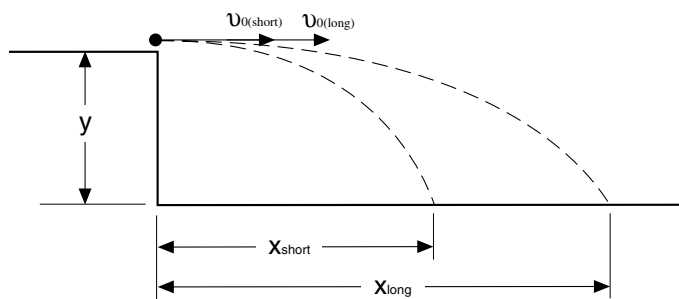

Figure 9.1: Shots fired simultaneously
- Tie a loop in a piece of string, and hang the pendulum horizontally from the loop. (See Figure 9.1.) With the ball latched in position in the ball catcher, adjust the position of the pendulum in the loop until the pendulum balances. Measure the distance from the pivot point to this balance point, and record the distance as  $R_{cm}$ .